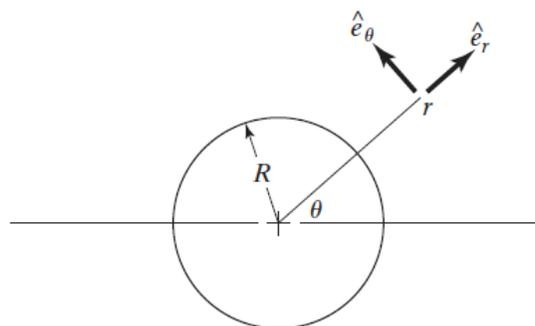

Fig. 1.
2. Consider steady two-dimensional flow about a cylinder of radius R (Fig. 1). Using cylindrical coordinates, we can express the velocity field for steady, inviscid, incompressible flow around the cylinder as